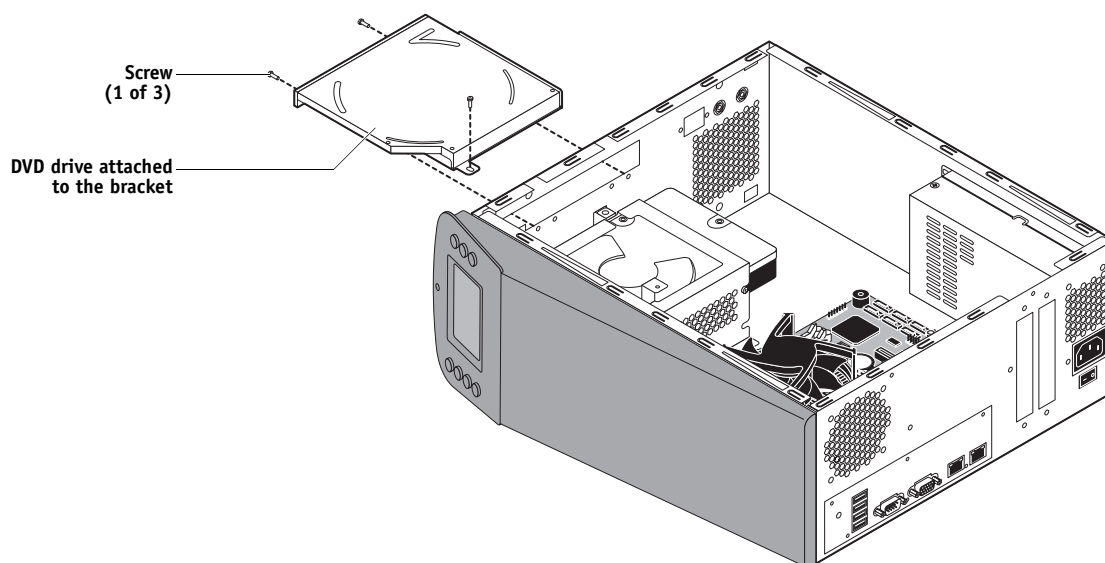

FIGURE 28: Removing/replacing the DVD drive bracket
- 1 Position the DVD drive inside the bracket and align the mounting holes on the DVD drive with the four holes in the bracket (see Figure 28 on page 59).**